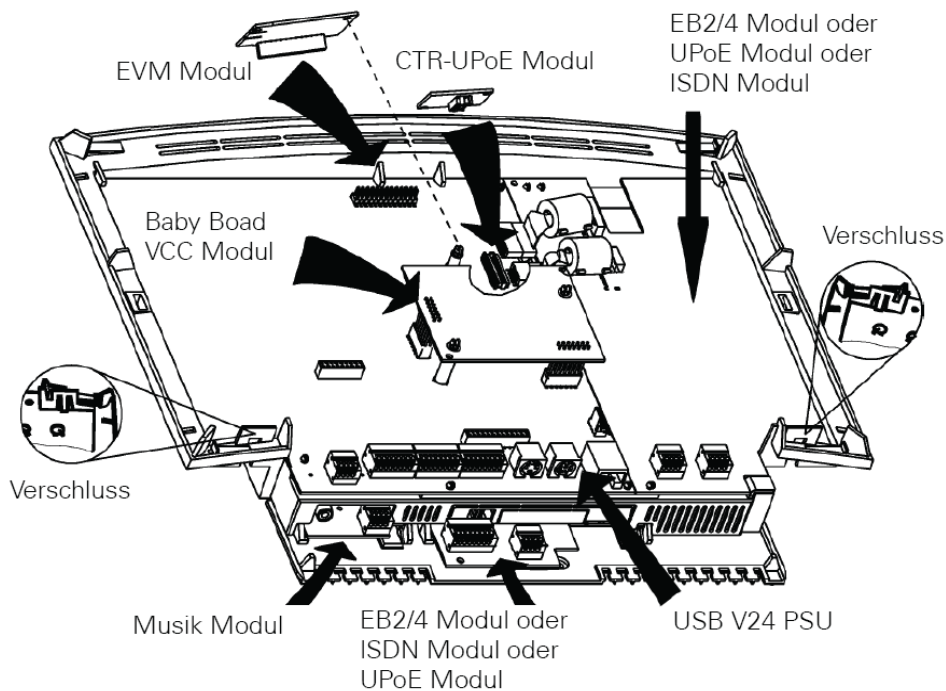

Figure 3-5 Location of modules on HiPath 1120
3.	Insert the module into one of the slots shown in figure 3-5.
4.	Underside: To install the LAN Interface Module or Music Module, lift the top part (MB) of the system and use the pin bar to connect with X1 position of the LAN Interface Module or X2 position of the Music Module.
5.	Top side: Interconnect the module and the MB using the flat cable/s provided, taking care to pass it through the ferrite (see figure 3-5).